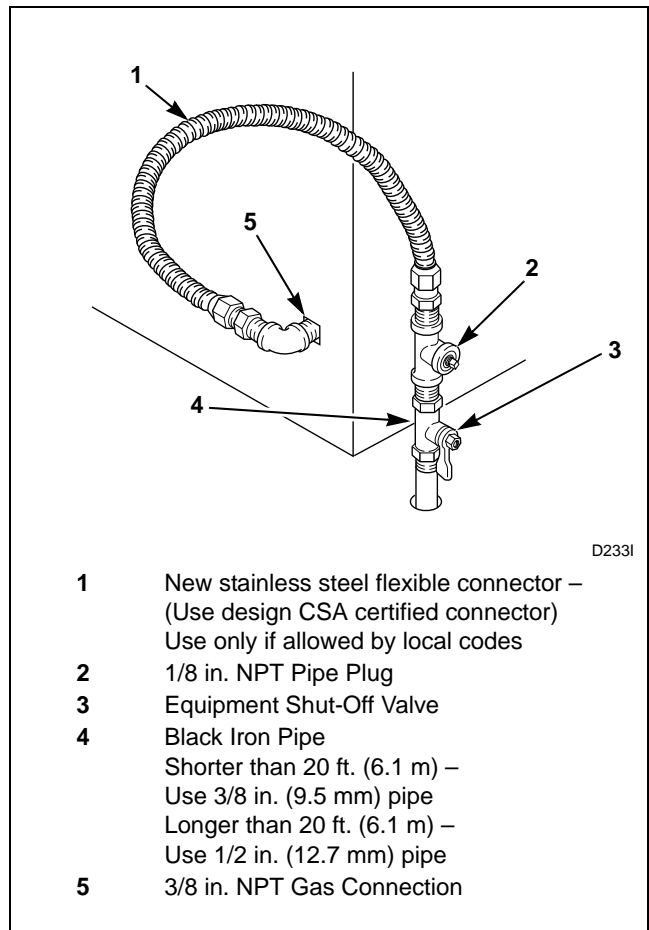

Figure 5
**NOTE: When connecting to a gas line, an equipment shut-off valve must be installed within 6 feet (1.8 m) of the dryer. An 1/8 in. NPT pipe plug must be installed as shown for checking inlet pressure. Refer to *Figure 5*.**